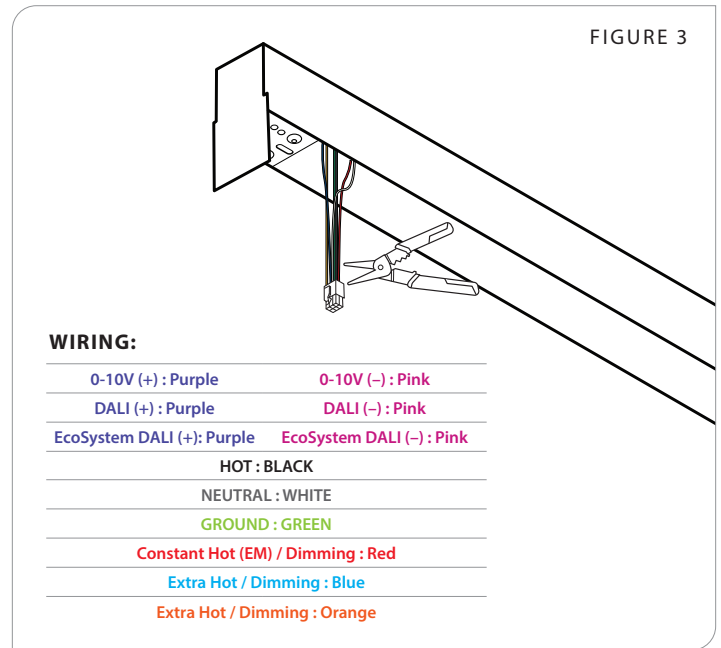

FIGURE 3
2. Cut lead end of the wire harness and strip wires. Make electrical connections (figure 3).